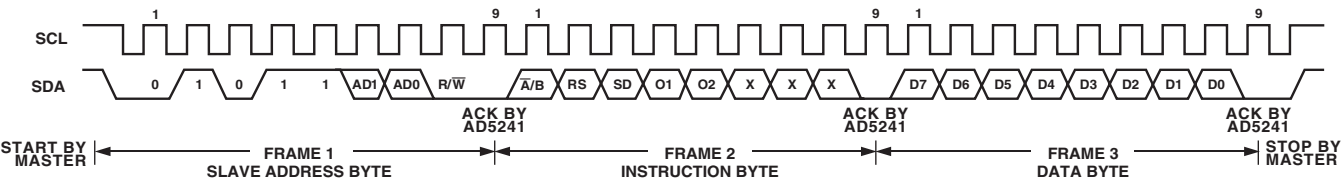

Figure 2. Writing to the RDAC Serial Register
Referring to Figures 2 and 3, the first byte of AD5241/AD5242 is a Slave Address Byte. It has a 7-bit slave address and an R/ $\overline{W}$ Bit. The 5 MSBs are 01011 and the following two bits are determined by the state of the AD0 and AD1 Pins of the device. AD0 and AD1 allow users to use up to four of these devices on one bus.
1. The master initiates data transfer by establishing a START condition, which is when a high-to-low transition on the SDA line occurs while SCL is high (Figure 2). The following byte is the Slave Address Byte, Frame 1, which consists of the 7-bit slave address followed by an R/ $\overline{W}$ Bit (this bit determines whether data will be read from or written to the slave device).
Pin except that $\overline{\text{SHDN}}$ Pin reacts to active low. The following two bits are O_2 and O_1 . They are extra programmable logic outputs that users can use to drive other digital loads, logic gates, LED drivers, analog switches, and the like. The three LSBs are Don't Care. See Figure 2.
- After acknowledging the Instruction Byte, the last byte in Write Mode is the Data Byte, Frame 3. Data is transmitted over the serial bus in sequences of nine clock pulses (eight data bits followed by an Acknowledge Bit). The transitions on the SDA line must occur during the low period of SCL and remain stable during the high period of SCL (Figure 2).
- When all Data Bits have been read or written, a STOP condition is established by the master. A STOP condition is defined as a low-to-high transition on the SDA line while SCL is high. In Write Mode, the master will pull the SDA line high during the tenth clock pulse to establish a STOP condition (see Figure 2). In Read Mode, the master will issue a No Acknowledge for the ninth clock pulse (i.e., the SDA line remains high). The master will then bring the SDA line low before the tenth clock pulse, which goes high to establish a STOP condition (see Figure 3).
Specific to the AD5242 dual-channel device, the channel of interest is the one that was previously selected in the Write Mode. In addition, to read both RDAC values consecutively, users have to perform two write-read cycles. For example, users may first specify the RDAC1 subaddress in the Write Mode (it is not necessary to issue the Data Byte and the STOP condition), then change to the Read Mode and read the RDAC1 value. To continue reading the RDAC2 value, users have to switch back to the Write Mode and specify the subaddress, then switch once again to the Read Mode and read the RDAC2 value. It is not necessary to issue the Write Mode Data Byte or the first stop condition for this operation. Users should refer to Figures 2 and 3 for the programming format.